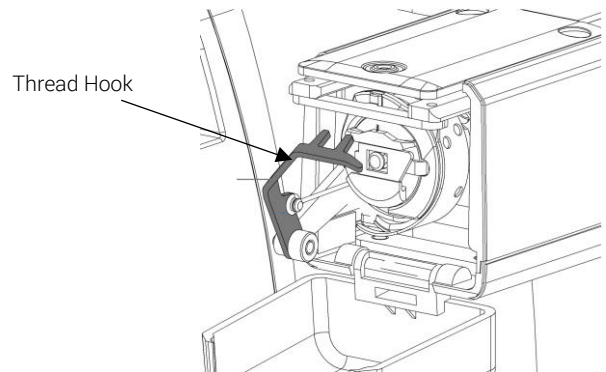

Figure 39
2. Identify the thread hook. See Figure 39. If thread hook is not forward, then pull it forward.